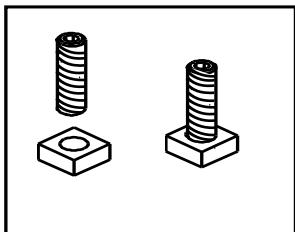

Figure 18.1
1. Thread Allen bolts through nuts until flush. **Figure 18.1.**